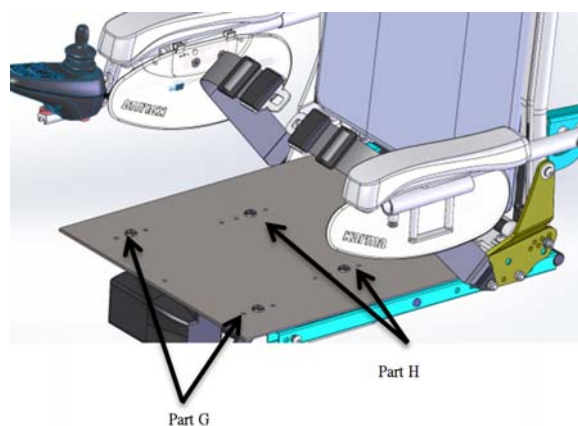

Figure 5-162
5.3.16.19 Use part G and H to fasten the seat plate on the seat frame. (Figure 5-162)